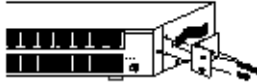

Figure 6 Rack mounting bracket
- 2 Insert each screw through the bracket and into a mounting hole in the switch, as shown in Figure 6.